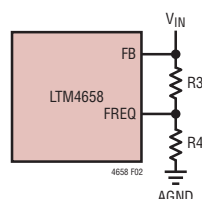

Figure 2. Phase Programming
2. The phasing of a subordinate phase relative to the main phase is programmed with a resistor divider on the FREQ pin (see Figure 2). Use of 1% resistors is recommended. See Table 4 for more information.